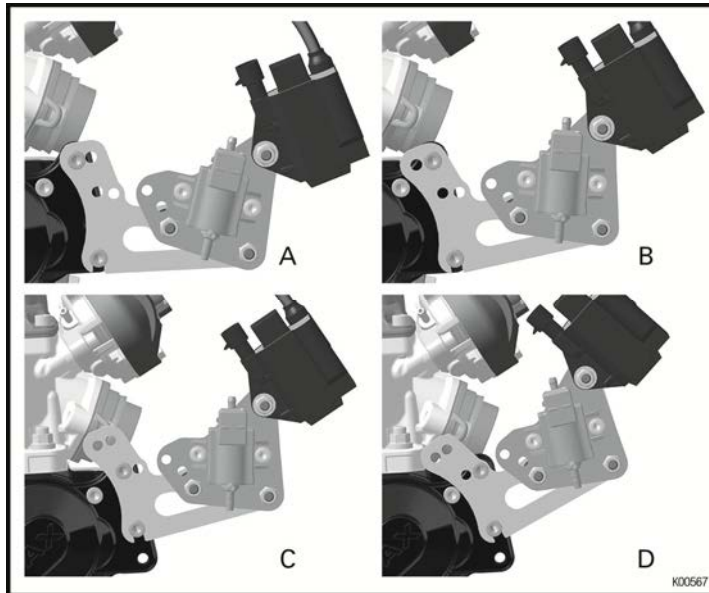

Fig. 15
- ◆ **Note:** The position of the mounting plate may vary (depending on the engine type and position of the seat stay), see Fig. 15.